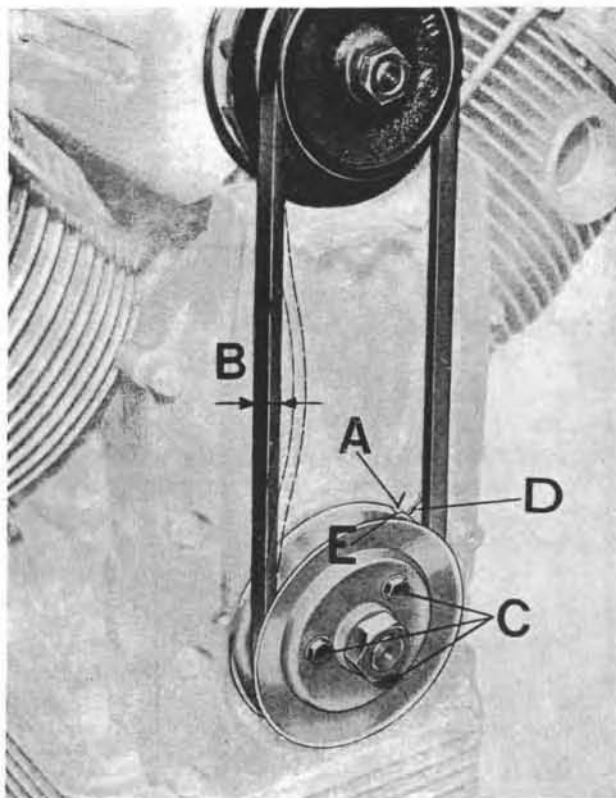

Fig. 124
- Make sure that L/H cylinder (No. 2) is at T.D.C., on its compression stroke, i.e. with both valves closed. The arrow (see D on Fig. 124) on timing cover must be right opposite the slot (E) on generator belt pulley.
- Rotate the generator belt pulley so to bring the slot (see E on Fig. 124) opposite to the mark (A) traced on timing cover. This mark is located in a 10° advanced position to the T.D.C. arrow indicator also embossed on the timing cover.